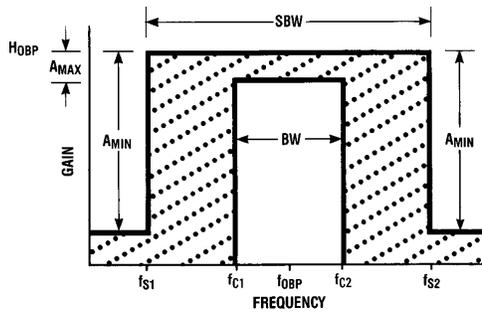

FIGURE 7. Graphical representation of the amplitude response specifications for a bandpass filter. The filter's response should fall within the shaded area.
1) Determine the characteristics of the desired filter. This will depend on the requirements of the particular application. For a given application, the required bandpass response can be shown graphically as in *Figure 7*, which shows the limits for the filter response. *Figure 7* also makes use of several parameters that must be known in order to design a filter. These parameters are defined below in terms of *Figure 7*.